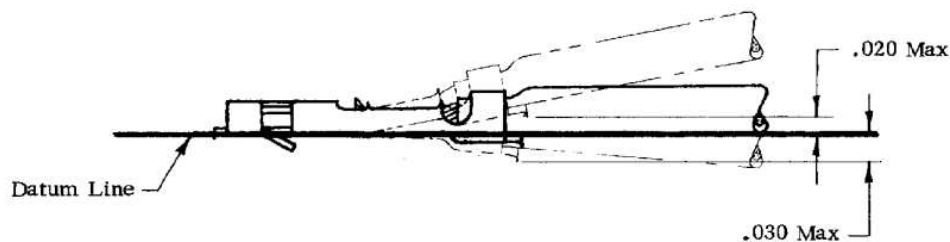

Figure 2
1. The contact, including the cutoff tab and burr, shall not be bent above or below the datum line more than the amount shown in Figure 2.